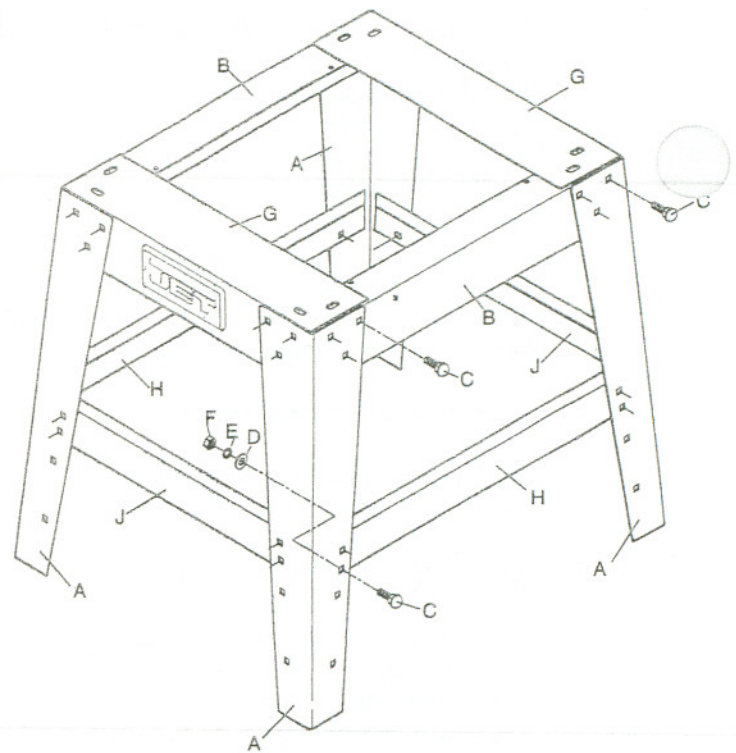

Fig. 2
Assembling Stand (reference Fig. 2)
1. The stand is assembled using M8x16 carriage bolts (C, Fig. 2), M8 flat washers (D, Fig. 2), M8 lock washers (E, Fig. 2), and M8 hex nuts (F, Fig. 2). First, assemble legs (A, Fig. 2) to long top plates (B, Fig. 2). Hand tighten only at this time.
2. Assemble short top plates (G, Fig. 2) to stand legs (A, Fig. 2) using the same combination of hardware as used to attach the long top plates. Hand tighten the hardware only at this time.
3. Assemble long support plates (H, Fig. 2) to the inside of the stand legs with the same M8 hardware. Hand tighten only at this time.
4. Assemble short support plates (J, Fig. 2) to the inside of the stand legs with the same M8 hardware. Hand tighten only at this time.